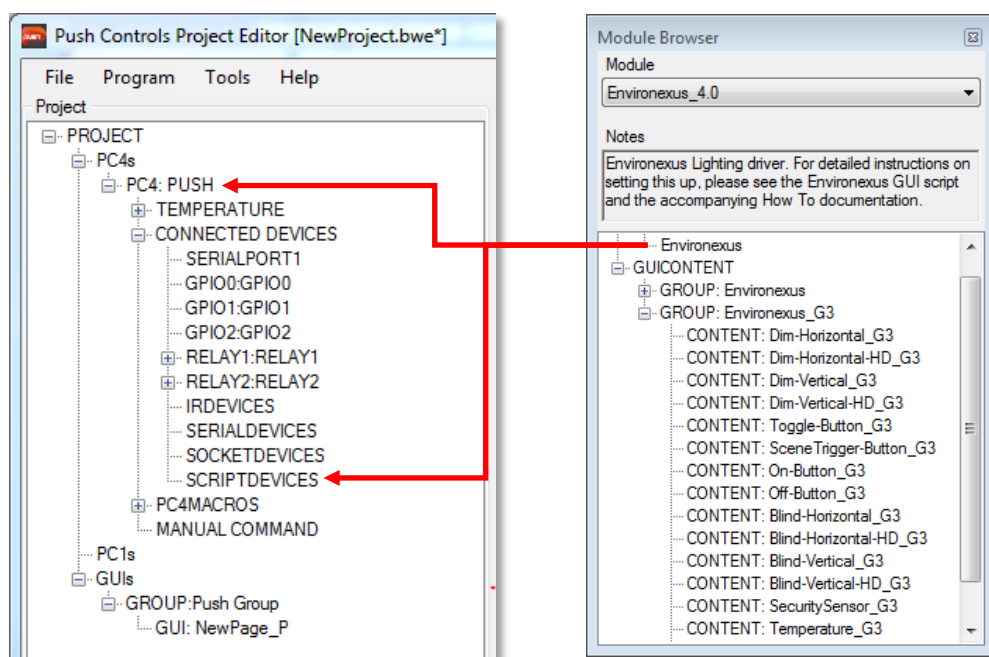

Figure 6 – Dragging and dropping scripts from the Module Browser window
The selected module will now appear in the module browser window (See Figure 6), where you can see everything that is included in the module.
Each of the elements contained in the module need to be dragged and dropped into their respective positions within the project. The items under the SCRIPTDEVICES category need to be dragged onto the desired controller. The GUICONTENT area can include any number of the following items POPUP, CONTENT or SCRIPT and are imported in the following manner *Refer to Figure 6:*
- CONTENT requires an existing page to be dragged in to. To include content you can either drag it onto the page name (see Figure 6) or drag onto an open GUI page (hold down shift to drag the content to any position on the page). Some modules will have examples of a full page and will have ‘_P’ or ‘_L’ appended to the content name, which denotes Portrait or Landscape. To import whole page content a page needs to be made, which matches the resolution of the page being imported.